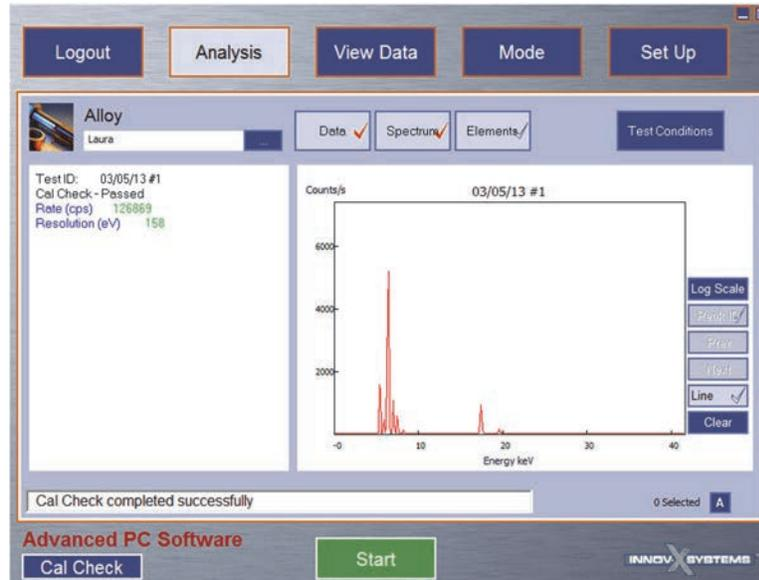

Figure A-2 The Analysis window – averaging icon shown
1. Click **Analysis** to display the **Analysis** window for the selected mode (see Figure A-2 on page 116).